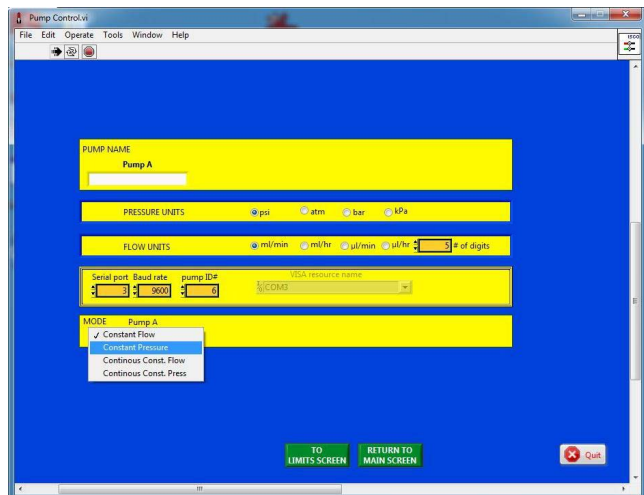

Figure 16: Setup Screen
11. Clicking the SETUP button will switch to the setup screen (Figure 16).
In Figure 16 the drop down arrow for the mode select for pump A has been selected and the 4 options are shown. The check mark shows the currently selected mode and the yellow highlight show the mode that will be selected if ENTER or the mouse button is clicked.